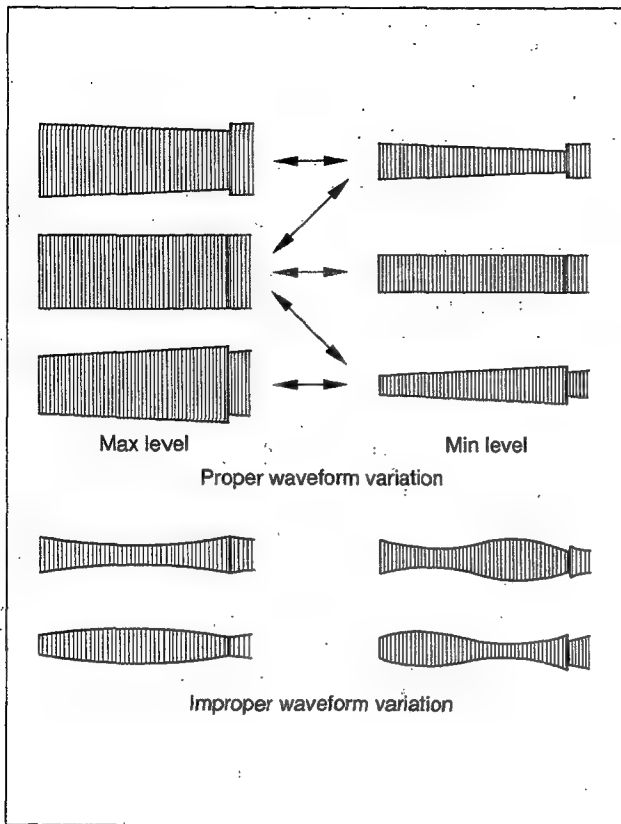

Fig. 2-4-1
- (1) Connect the oscilloscope to TP106(PB FM/COL) of the main board assembly and to TP111(D.F.F) of the main board assembly for external sync connection.
- (2) Playing the alignment tape MHPE, observe the FM waveform.
- (3) Press the channel buttons (+) and (-) buttons simultaneously during playback to enter the manual tracking mode (This also brings tracking to the center.)
- (4) Make sure that there is no significant level drop of the FM waveform caused by the tracking operation, with its generally parallel and linear variation ensured. Perform the following adjustments when required. (Fig.2-4-1)